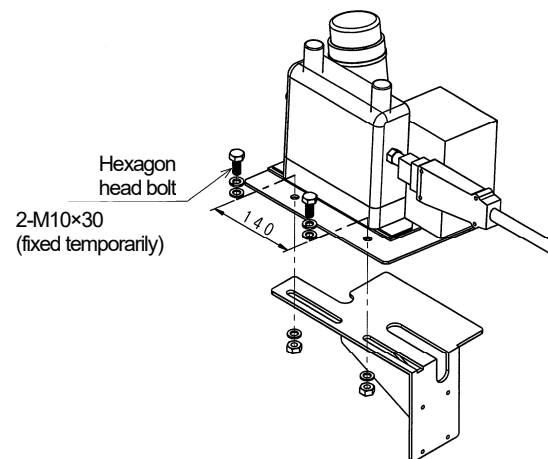

Figure 1.2 Mounting of wire feeder
2. Referring to Figure 1.2, mount the wire feeder to the fixing bracket. Fix it temporarily using the hexagon head bolts and washers and nuts. (The bracket is fixed temporarily in order to adjust the tension of all-in-one power cable.)